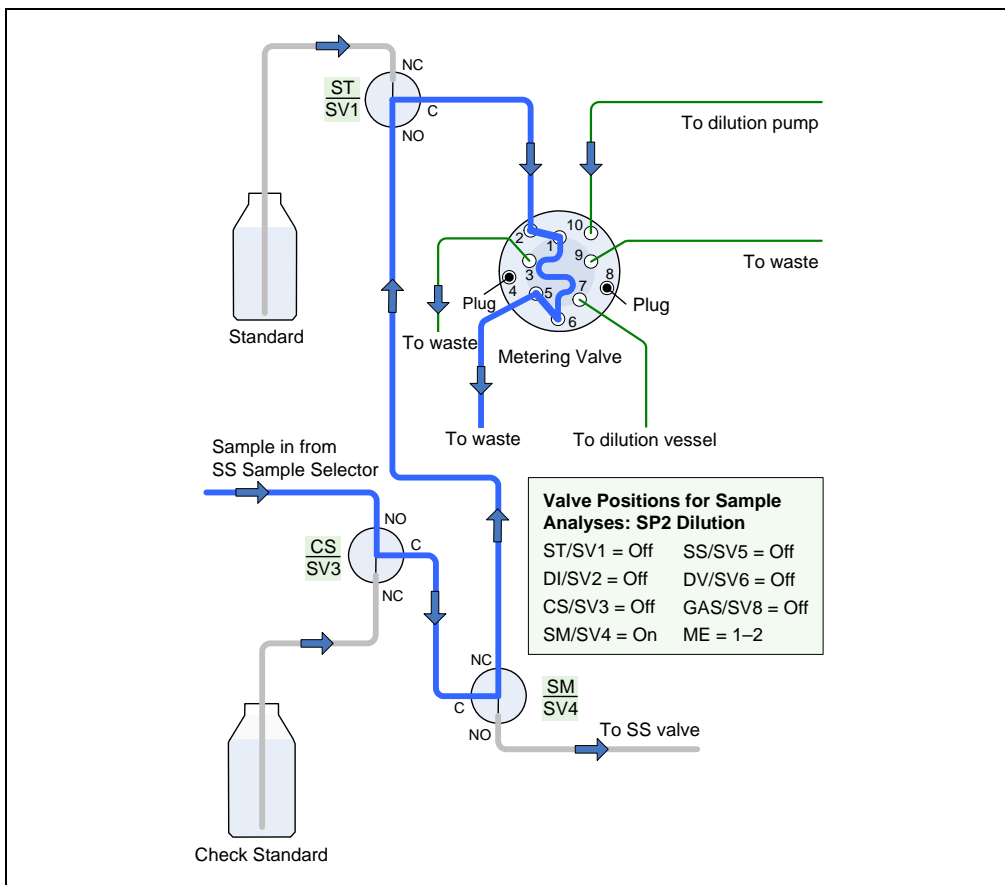

Figure 3-28. Analyzing Sample Streams: SP2 Dilution Step 1: Filling the Metering Valve Loop with Sample
- Step 1: Filling the loop on the metering valve with sample (see Figure 3-28).